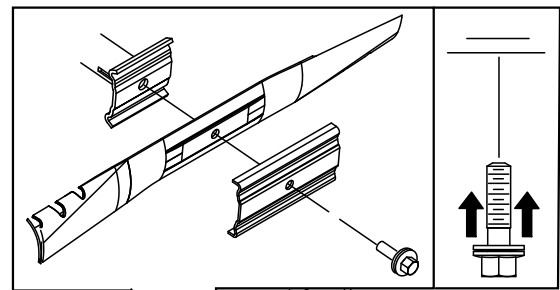

Figure 22
5. Install the new blade (turn the blade bolt clockwise) and all mounting hardware (Figure 22).